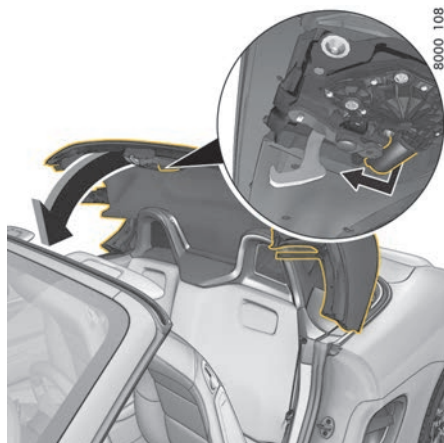

Fig. 66: Pulling convertible top to windscreen frame
4. Using your hand, grasp the convertible top at the convertible top motor (Fig. 66) and pull it to the windscreen frame.